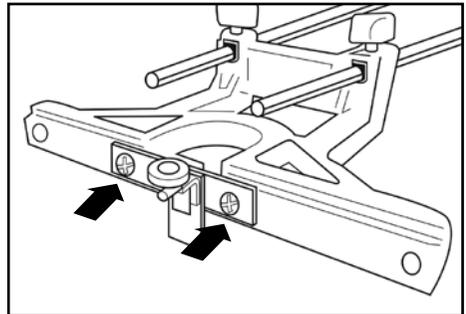

FIG.13
- Remove the black guards (17.1) from the parallel guide fence (17) by removing the 4 screws holding them in place.
- Retaining 2 of the above screws, use them to secure the curved edge guide (18) to the parallel fence guide (Fig.13).